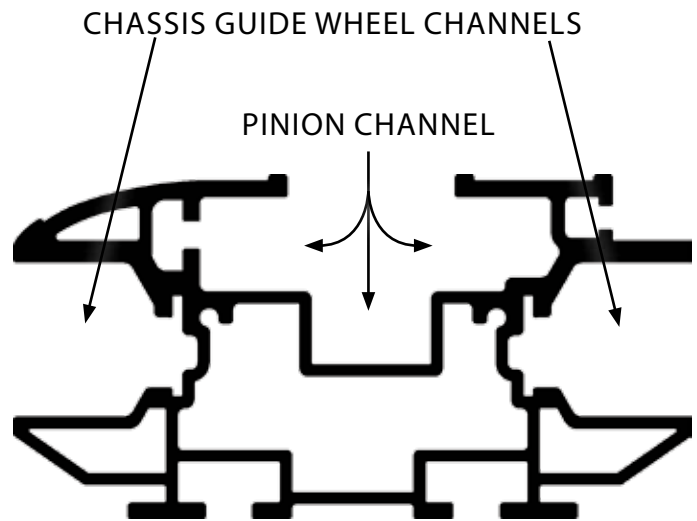
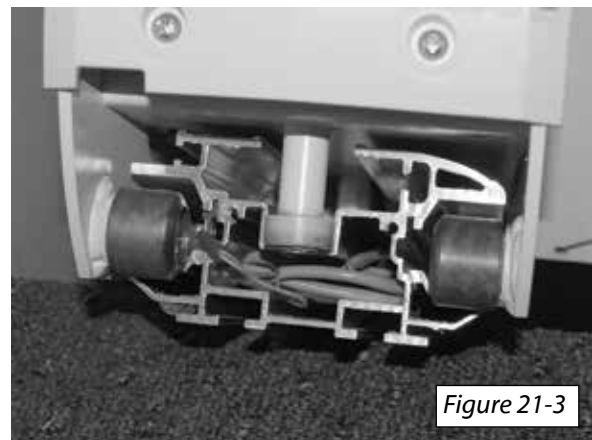

Figure 21-1
Figure 21-3
1. The chassis slides onto the top of the rail. Carefully pick up the chassis and align the pinion and guide wheels with the rail channels. Insert the chassis onto the rail. [Figure 21-1 and 21-2] Let it slide down until it stops (the pinion gear will make contact with the gear rack, allowing it to stop). [Figure 21-3]